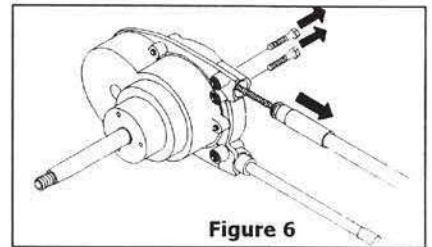

Figure 6
STEP 1. Disconnect the cable body from helm by removing the two retaining bolts in the back of the helm (See Figure 6)